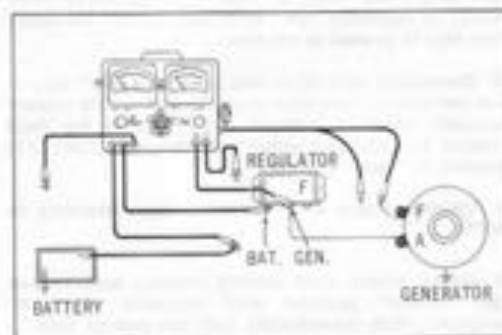

Figure 51-9.
B. TESTER CONNECTIONS (See Fig. 51-9)
Use same tester connections as previous Test C. (Fig. 51-9)